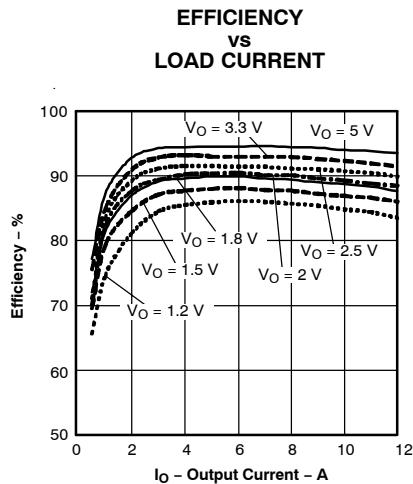
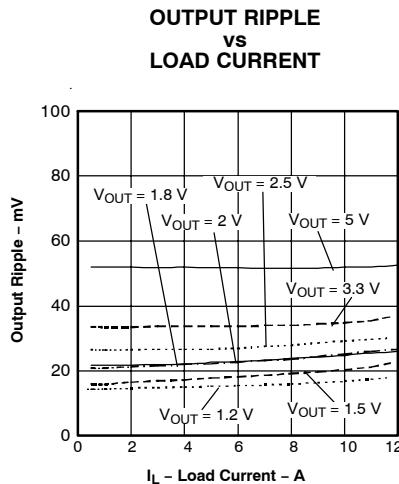
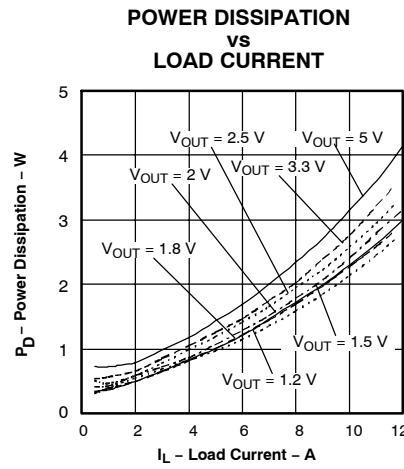

Figure 1.
Figure 2.
Figure 3.
(21) The electrical characteristic data has been developed from actual products tested at 25°C. This data is considered typical for the converter. Applies to Figure 1, Figure 2, and Figure 3.